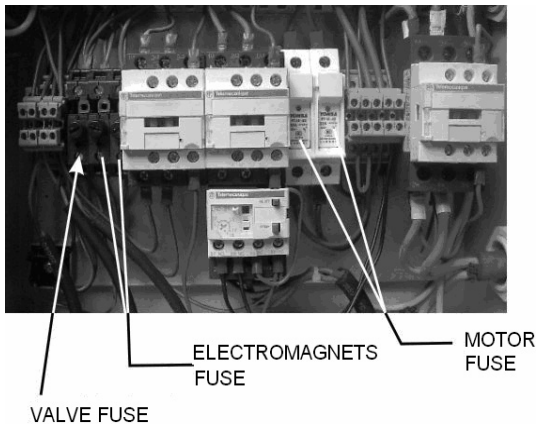

Fig.18 Master control box
- 3、Replacing fuse: When the fuse of the motor & the electromagnet & the valve is broken, please replace the fuse from the spare parts.(see Fig.18,19).